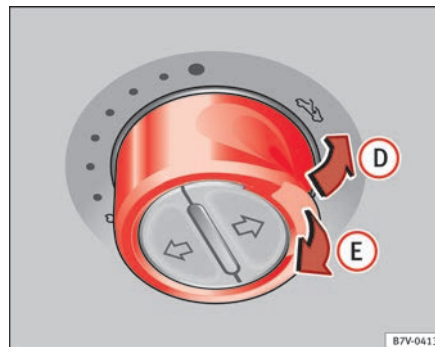

Fig. 59 On the interior roof lining: Press the button and pull on it to lift and close the sliding sunroof.
⇒ fig. 59
- *Panorama sliding sunroof*: Within five seconds of triggering the anti-trap function, pull the control all the way back ⇒ fig. 59 (arrow E) until the panorama sliding sunroof closes fully.